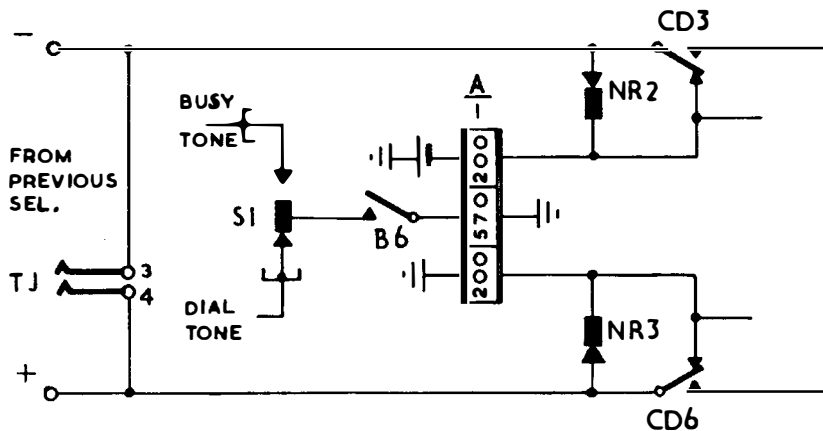

FIG. 1. LOOP SEIZURE.
3.1 LOOP SEIZURE. When the calling loop is extended from the previous selector on the positive and negative wires of the selected trunk, the loop operates the A relay of the group selector (Fig. 1). Test jacks 3 and 4 permit a maintenance technician to monitor a call or to loop a selector for testing purposes.
**3.3 DIAL TONE TO CALLER.** When the selector is a first selector, contact B6 (Fig. 1) connects dial tone to the 570 ohm winding of relay A. The tone is induced from this winding into the two 200 ohm windings and so to the caller. If the selector is not a first selector, the dial tone connection is replaced by earth.
**3.8 200 OUTLETS-BANKS ASSEMBLY.** Figs. 1, 2 and 3 in the paper "Internal Trunking" show the make up of bimotional selector banks. The standard 2000 type group selector is a 200 outlet selector, which means that each level has an availability of 20 circuits or trunks. To obtain this availability, the group selector is associated with three 220 point banks. The lower bank contains the positive and negative connections for the "odd" numbered outlets on each level - 10 circuits numbered 1,3,5.....19; the middle bank contains the positive and negative connections for the even numbered outlets 2,4,6.....20, while the upper bank contains the private wire connections for both line groups. This enables the group selector to test simultaneously via the private or top set of wipers the condition or potential existing on one odd and even private contact.